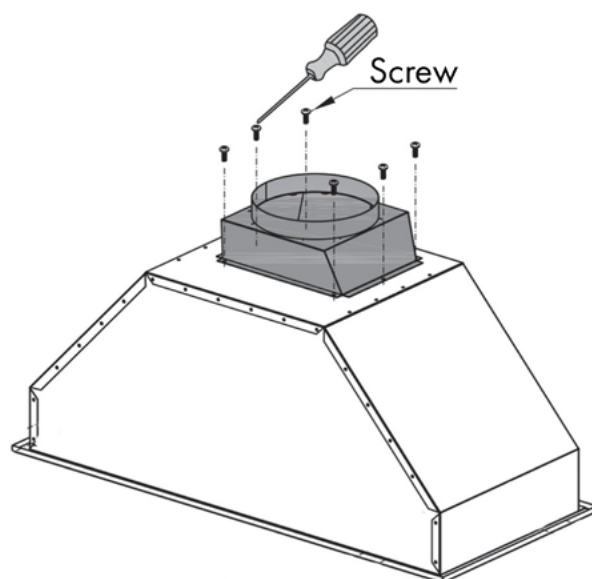

Figure 1
1. Unpack contents of the hood. Attach transition piece and ducting to the top of the range hood insert with the provided screws. Make sure the rubber gasket seals properly when securing the transition piece. *Figure 1*